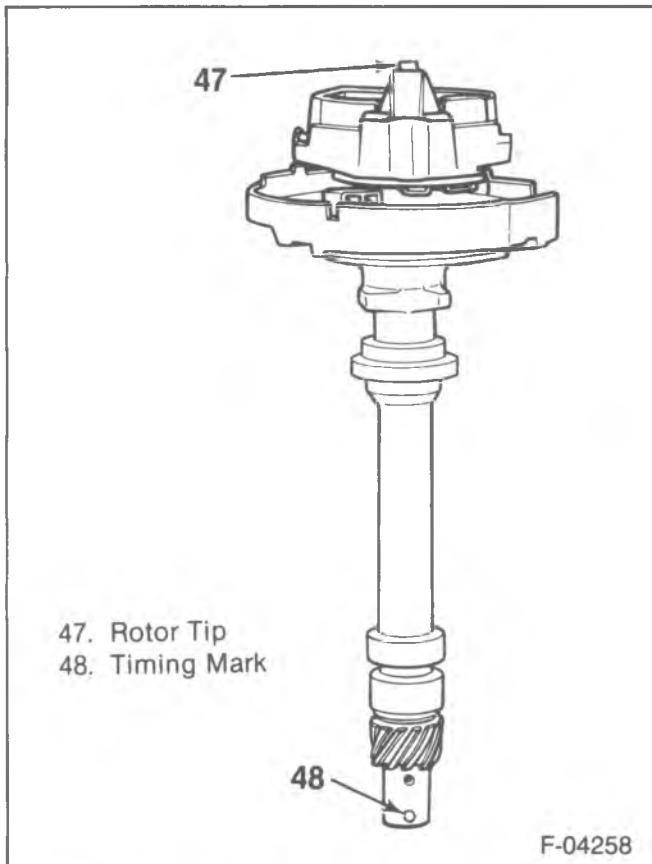

Figure 57—Timing Mark and Rotor Alignment
- Align the timing mark (48) on the driven gear with the rotor tip (47) (figure 57).